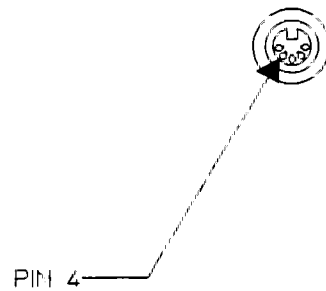

Figure 4-23. DIN Connector
1. Set the power switch to ON (1).
2. Check the voltage on pin 4 of the DIN connector for +5V (see figure 4-23).